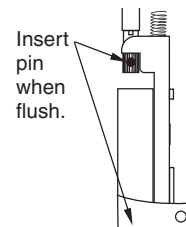

Figure 21
3. Insert pin in adjustable rod connector. (Figure 21)